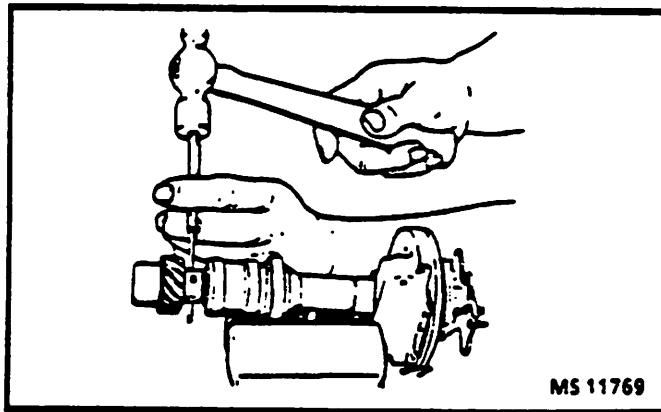

Figure 10 - Removing the Roll Pin
- Any time the distributor is disassembled, the retainer (5) must be replaced. Do not attempt to reuse the old retainer.
- Screws (1) and washers holding the cap to the housing.
- Cap (2) from the housing.
- Rotor (3) from the shaft by lifting or prying straight up.
- Roll pin (15) from the shaft (4).
- Drive out the roll pin with a small punch (Figure 10).
- Driven gear (14), washer or spring (13), and spring retainer or tang washer (12).
- Shaft (4) with the pole piece (8) and plate from the housing (11).
- Retainer (5) from the housing (4) as follows: